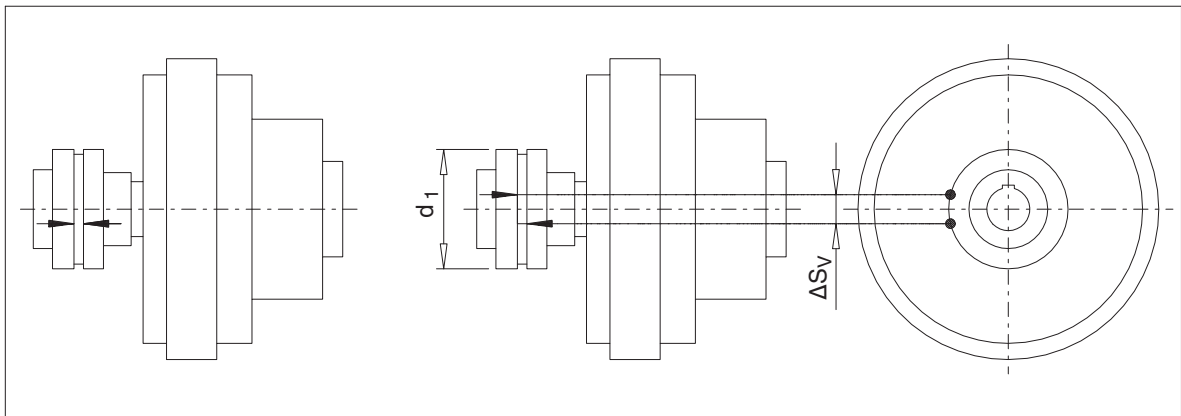

Fig. 10: Maintenance interval of the N-EUPEX add-on coupling
If an increased coupling backlash does not impair the operation of the coupling, the flexible elements (12) can continue to be used up to a specified wear limit before being replaced. To assess wear, the permitted torsional backlash, converted to the chord dimension ΔS_V on the outer coupling diameter, is shown in table 11. To obtain the dimension ΔS_V , one coupling part is rotated without torque as far as the stop and a mark applied to both side (see figure 10). If the coupling part is rotated in the opposite direction of rotation as far as the stop, the marks move apart. The distance between the marks is the chord dimension ΔS_V . If the dimension ΔS_V exceeds the value in table 11, the flexible elements (12) must be replaced.